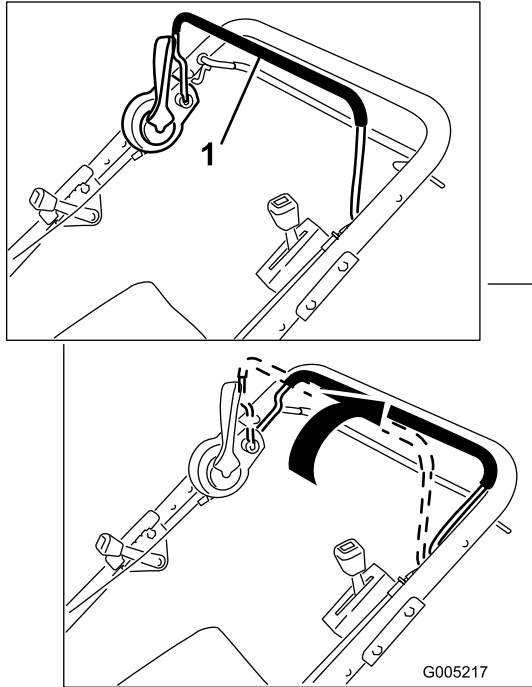

Figure 12
1. Pull the blade control bar to the handle and hold it (Figure 12).